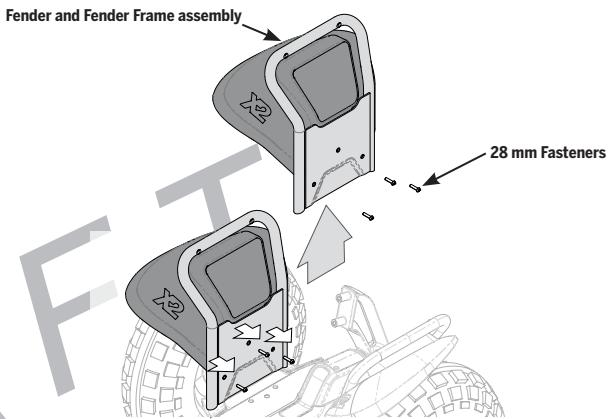

Figure 72: Remove/Install the x2 SE Fender/Fender Frame Assembly
2. Remove the three 28 mm fasteners using a 4 mm hex wrench (see Figure 72).